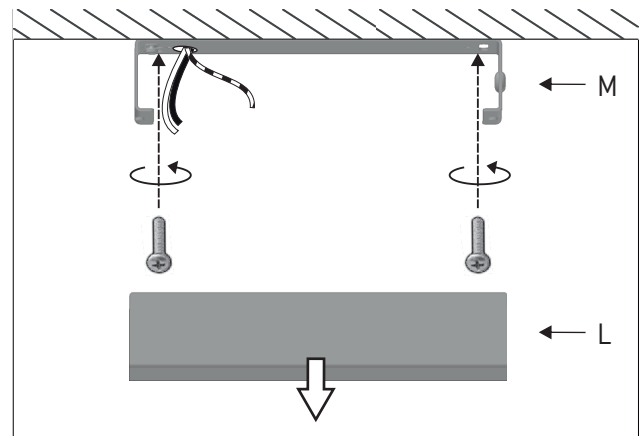

Figure 8
8 - Pull the canopy (L) down with force to remove the mounting bracket (M). Insert the main electrical cable through the mounting bracket and fix it to the ceiling. Figure 8.